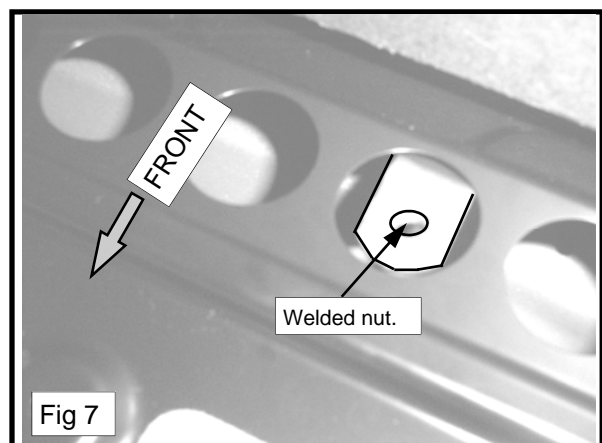

Fig 7
3. Using extension strap Item 9 positioned on the underside of the metal floor brace, position hole in strap over marked location on LHS, with the welded nut end of strap flush with top face of metal floor brace as shown in Fig. 7. Mark height through hole in strap.